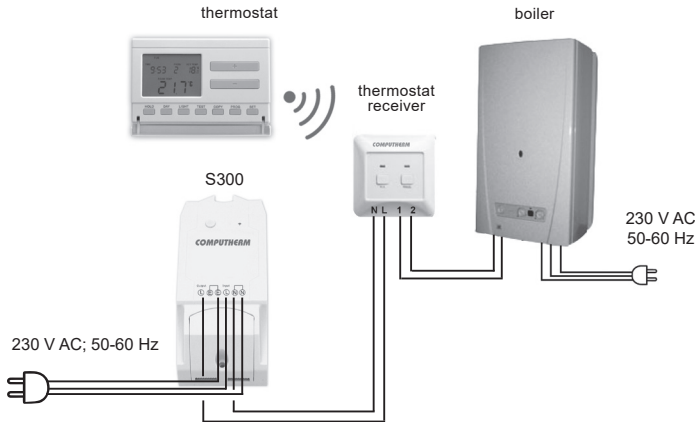

Figure 2
Therefore, if you control your boiler with a **COMPUTHERM** wireless (RF) thermostat, we suggest you to connect the power supply of the receiver unit of the RF thermostat to the **COMPUTHERM S200** Wi-Fi socket instead (Figure 2), **as this way heating will be turned off in the OFF state of the Wi-Fi socket, while domestic hot water is still available.** Then, with remote switch (**ON/OFF**) of the thermostat via the Internet, the central heating system can be controlled and switching between economy and comfort temperatures is feasible.